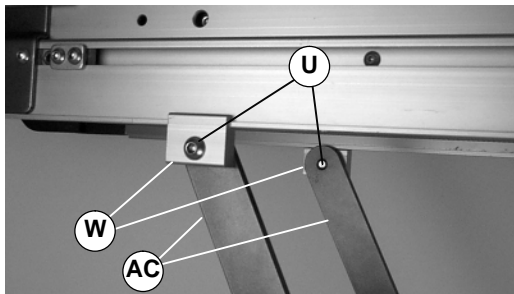

Figure 13
7b. Loosely attach brace bars (AC of Figure 13) to conveyor using clips (W) and screws (U).
3. If equipped with diagonal bracing, loosen screws (U of Figure 13) and disconnect brace bars from conveyor.
2. If equipped with diagonal bracing, loosen screws (U of Figure 13) and disconnect brace bars from conveyor.